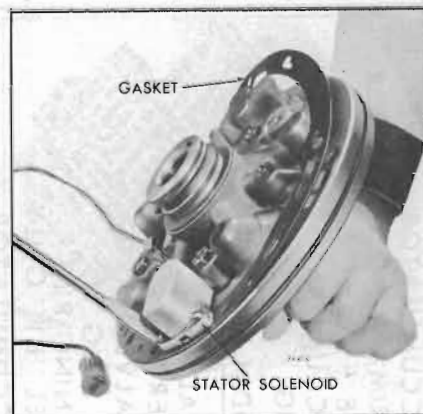

Figure 74-615
1. Remove stator solenoid attaching screws and solenoid and pump to case gasket. See Fig. 74-615.